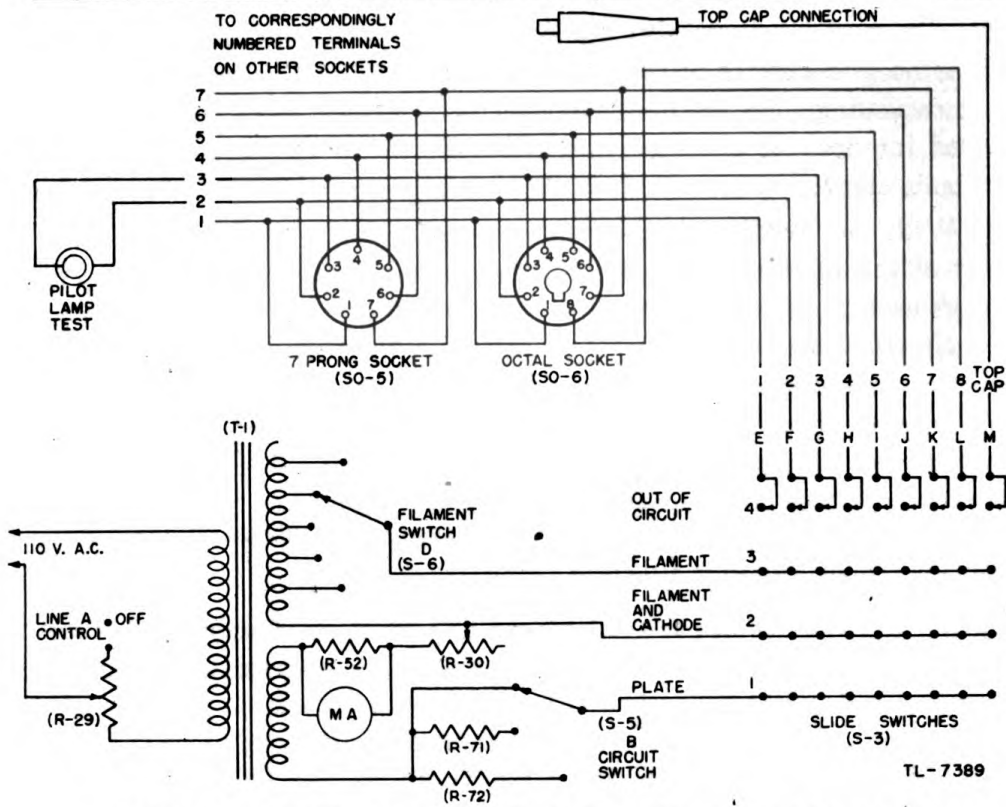

FIG. 12. MODEL 104 COMBINATION TESTER, SIMPLIFIED TUBE-TESTING CIRCUIT
a. *Combination Tester as Tube Checker (fig. 12).* Control A (LINE CONTROL) is a 164-ohm rheostat (R-29) which adjusts transformer (T-1) for changes in line voltage. Control B (S-5) is a 10-position 4-wafer switch used to select the proper circuit for tube tests. Control C (R-30) is a 200-ohm potentiometer which provides the proper load for the tube being tested. Control D (S-6), a 20-position 4-wafer switch, sets the proper filament voltage for the tube under test. Slide switches (S-3) are single-pole 4-position switches used to connect the tube terminals to the test circuits. Tube socket terminal 1 connects to the arm of switch E, terminal 2 to the arm of switch F, etc. The arm of switch M is connected to the top-cap clip. In position 1, the slide switch arms connect Control B and the proper load resistor to a 30-volt winding on transformer (T-1), providing the correct plate voltage for the tube being tested. In position 2, the slide switch arms connect the common leads of the two secondary windings on transformer (T-1), to the cathode of the tube being tested. In position 3, the slide switch arms connect the filament taps on the transformer (T-1) to the tube filament through control D. The emission of the tube is shown on the indicating meter. In position 4, the slide switch arms are out of the tube testing circuit. When the LINE CHECK button is pressed, a secondary winding of transformer (T-1) is connected to the type-H rectifier (RE-2), which changes the a-c to d-c voltage. The d-c voltage is then read on the indicating meter. The fila-